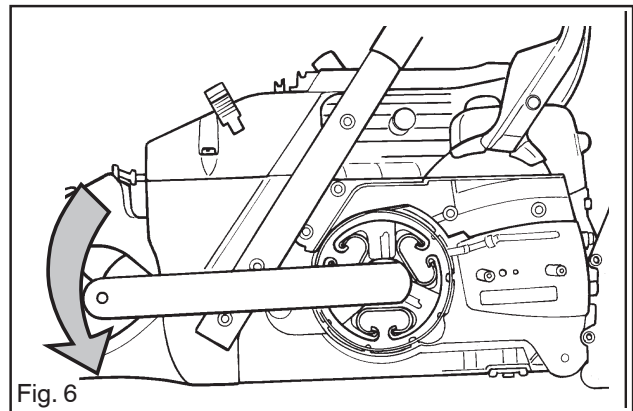

Fig. 6
Note: Left-hand thread! See fig. 6.
4. The worm gear of the oil pump drive should be undamaged. See fig. 6.